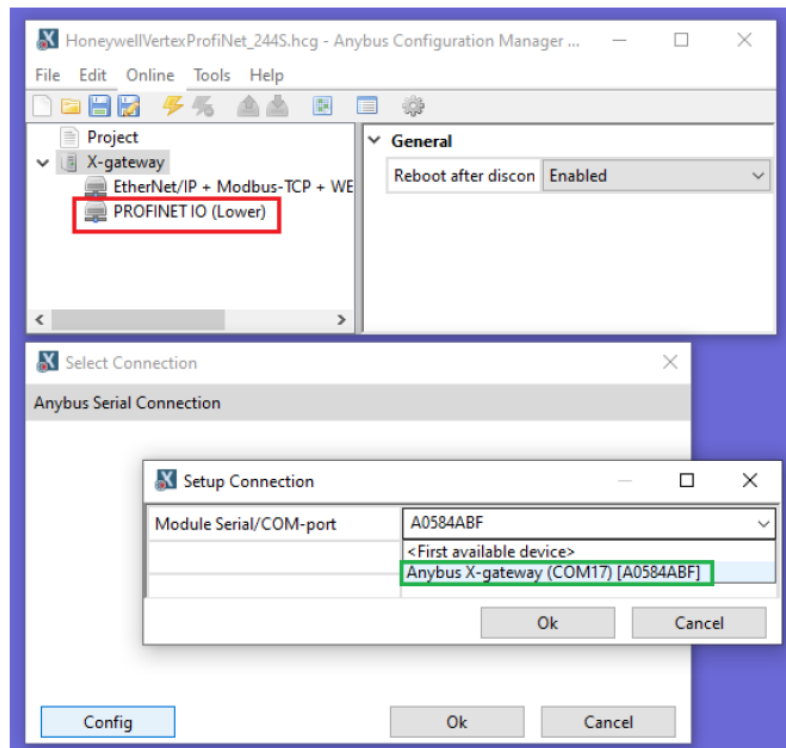

Figure 8.41
4. Select the current module as shown in green in Figure 8.41.